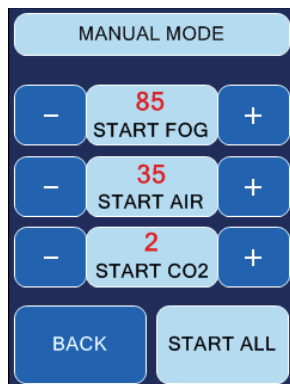

Fig. 4 Manual Mode
Press **MODIFY** at the main screen (*Fig. 1, see next page*). The screen switches to MANUAL MODE (*Fig. 4*). Adjust a CO₂ value higher than 0 with the +/- button (*line 4*) and press **START** CO₂ (*line 4*).
The screen now changes to *MANUAL MODE* (Fig. 4) (where also the values for the individual presets can be changed), now showing **STOP** instead of **START** because the fogging process has already been started. You can stop the fogging process by pressing **STOP ALL**.
- Press **MODIFY** (line 3) at the main screen (Fig. 1) and adjust the requested values for fog, air and CO₂ at the now shown MANUAL MODE-screen (Fig. 4), using the **PLUS** or **MINUS**-buttons.
- Press **MODIFY** at the main screen. The screen switches to Manual Mode (Fig. 4).